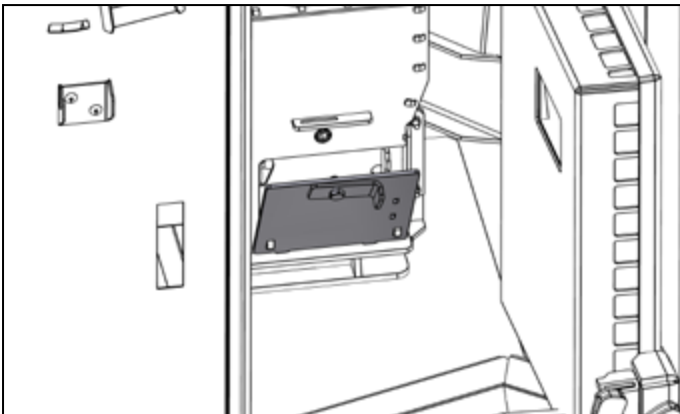

Figure 12-13: Removal of brazier front plate
- Hinge down and remove the brazier front plate from the burner. Refer to Figure 12-13.